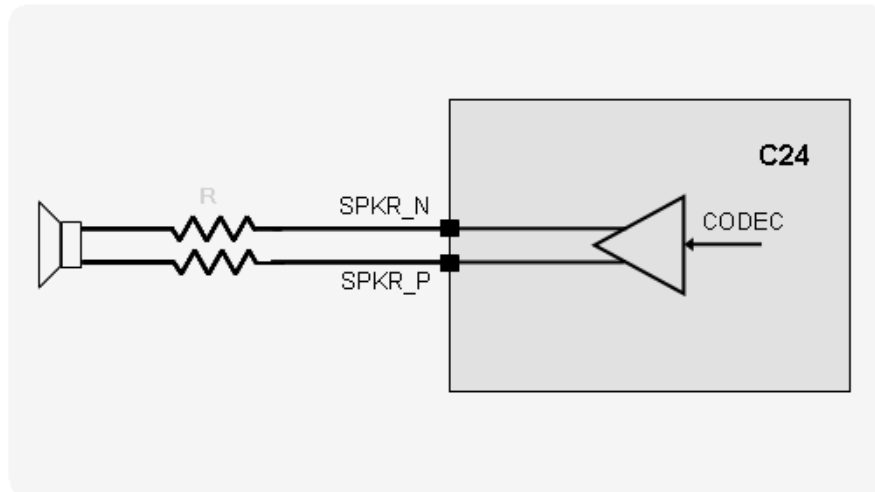
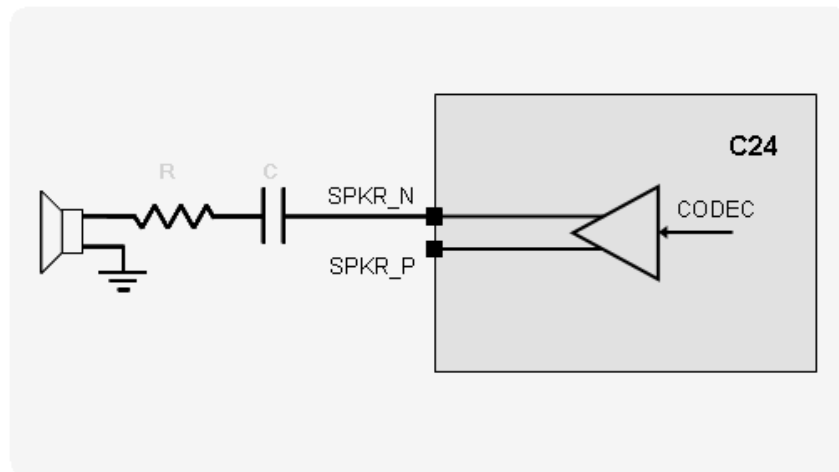

Figure 2-17: Differential Speaker Circuit
Figure 2-18: Single-ended Speaker Circuit
Figure 2-17 shows a differential speaker circuit, Figure 2-18 shows a single-ended speaker circuit and Table 2-8 gives the speaker specifications.
**Important:** For safety regulations it is important to place series resistors on the speaker output lines, as illustrated in Figure 2-17. The resistors value should be  $R = 0\Omega$  at the design stage, but may be changed to a different value during audio safety testing, in case speaker level limitation is required.
**Important:** When implementing a single ended speaker design, it is required to place a series capacitor and resistor on the speaker output line, as illustrated in Figure 2-18. The capacitor should be of low tolerance with values of  $C = 10\text{-}22\ \mu\text{F}$ . The resistor value depends on the speaker application: